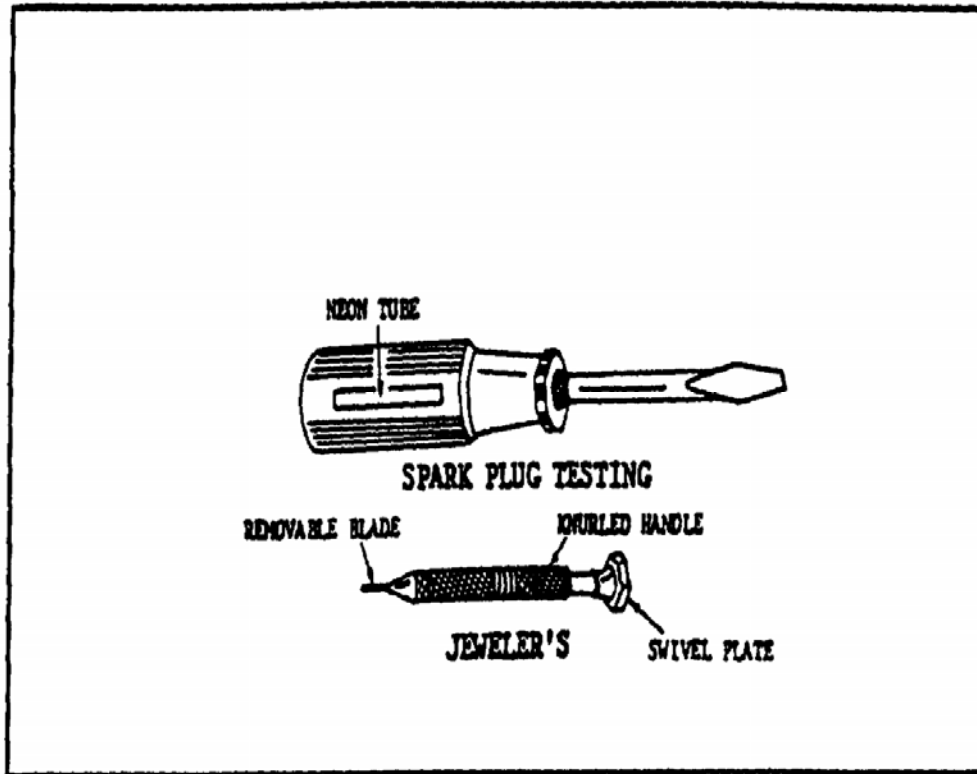

FIGURE 11. JEWELER'S AND SPARK PLUG TESTING SCREWDRIVERS.
(9) *Jeweler's Screwdrivers*. Jeweler's screwdrivers (figure 11) are made for driving and removing small size screws. The tips range from 0.025 inch to 0.1406 inch wide. They usually have knurled handles, a swivel end finger rest plate, and some have removable blades.
(10) *Spark Plug Testing Screwdriver.* A neon tube, inserted in an electric shock proof handle of a common screwdriver, indicates the condition of a spark plug by the type of flash. A brilliant flash means good condition, a thin flash indicates too narrow a gap, and no flash means a short. This screwdriver is equipped with a 2 1/4 inch blade and a pocket clip (figure 11).